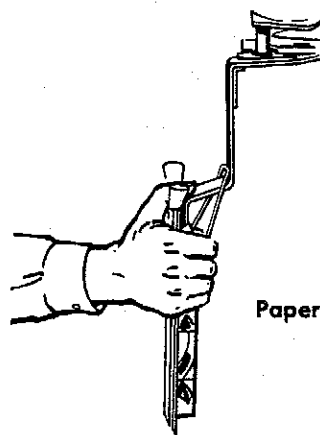

Figure 4.
c. Carrier is in alignment if "V" edge conforms with "V" notch in gauge. If edge of carrier and "V" notch do not conform, gently pull or push carrier to bend as required for proper alignment. (Figure 4)